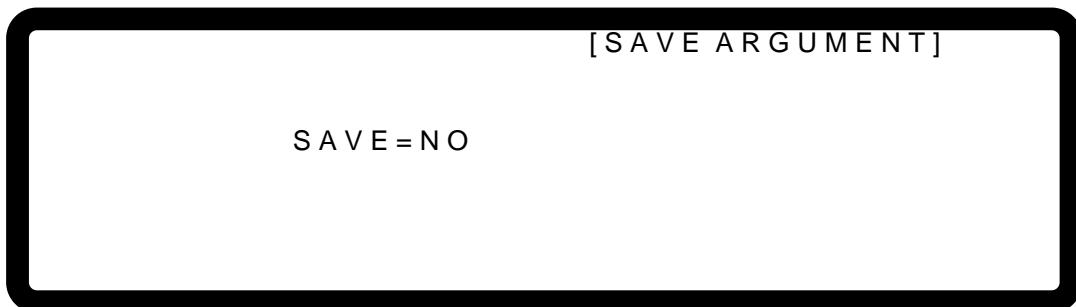

Figure 3-134
8. The APG current calibration is done once the above actions are completed. To save the calibration data, pressing "" will display a confirmation page as shown in Figure 3-134. Press "" or turn the "Rotary" () knob to set SAVE=YES and press "" to save it. If there is no need to save it, press "" to return to the Calibration screen.